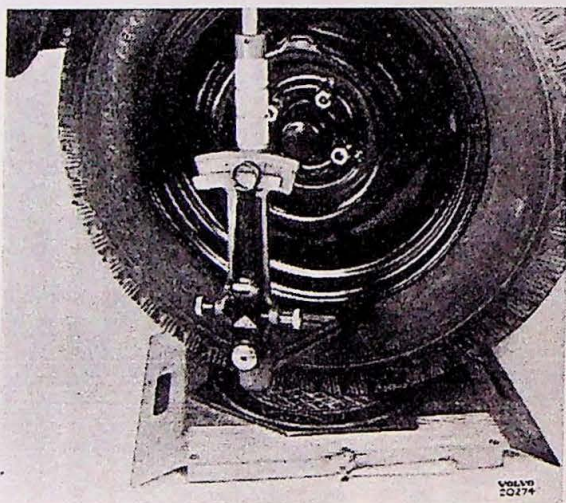

Fig. 37.
3. Turn in wheel 20 degrees by means of steering wheel (fig. 37).